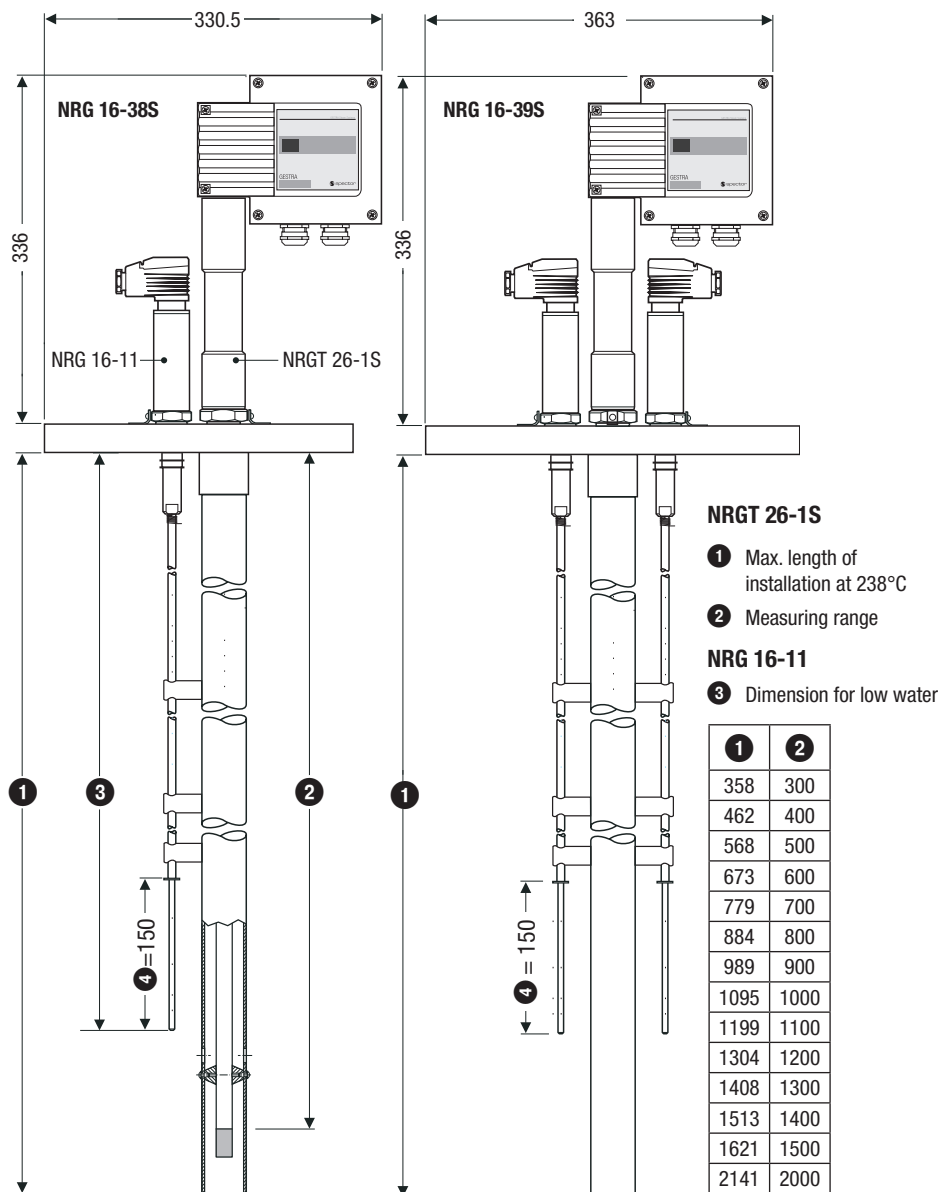

Fig. 4
- Both level electrodes are installed in one common flange DN 100. **Fig. 4**
- Both level electrodes are installed in one common flange DN 150. **Fig. 4**